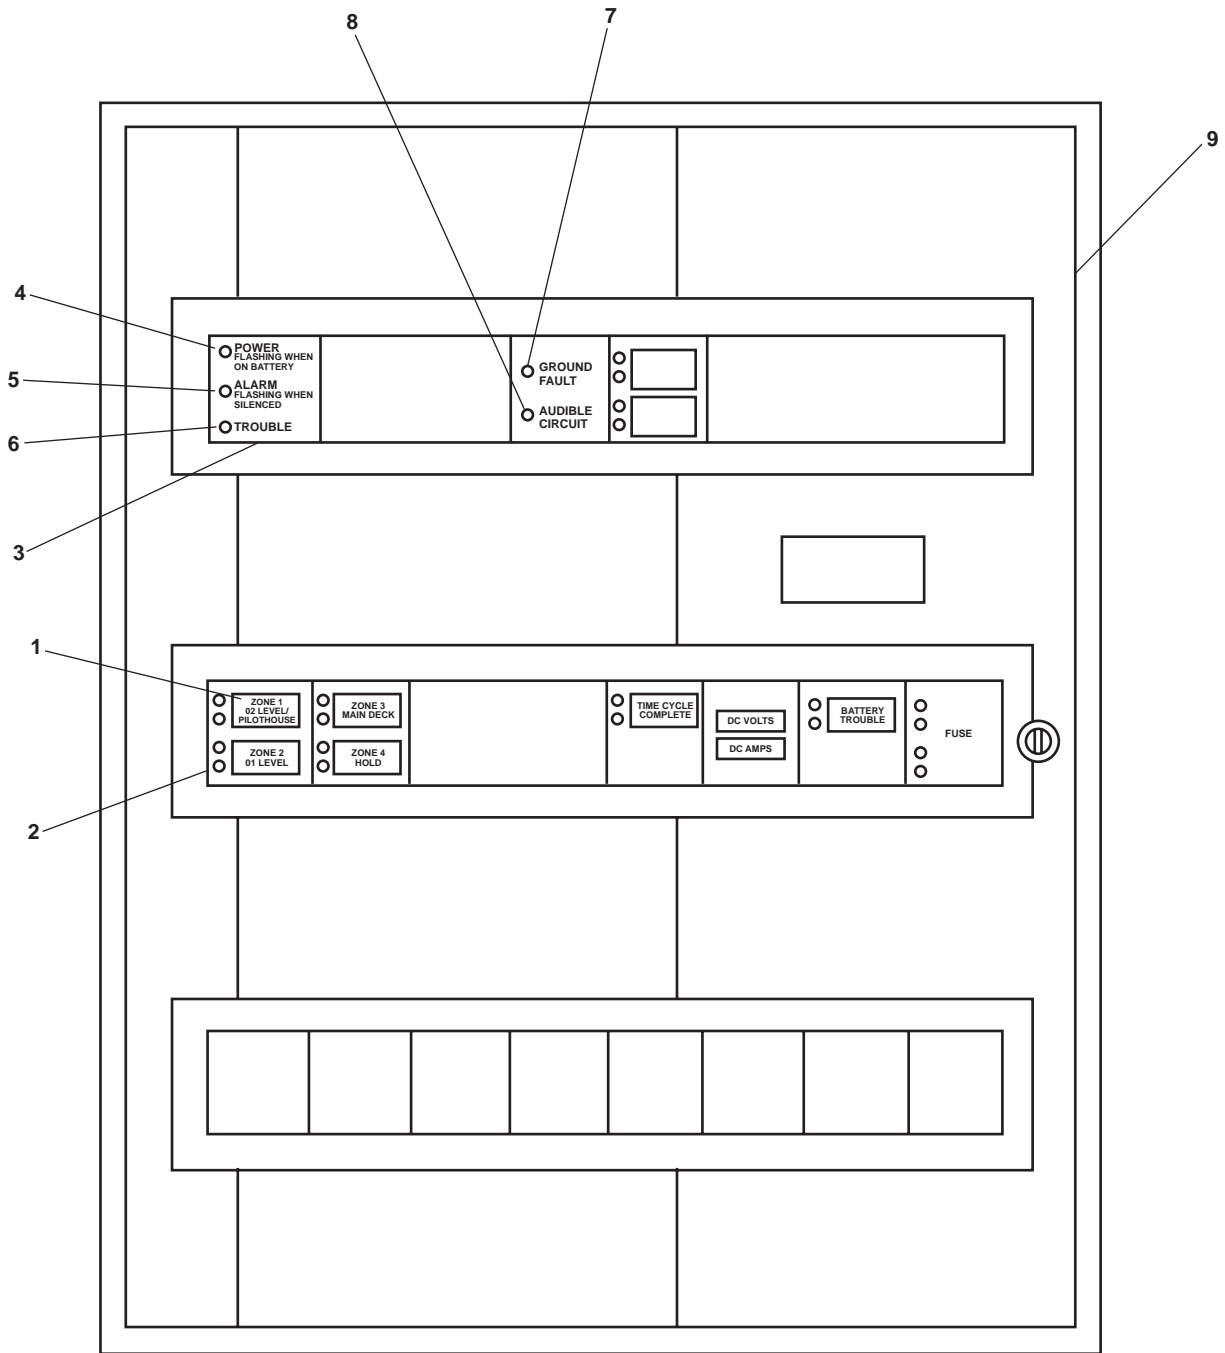
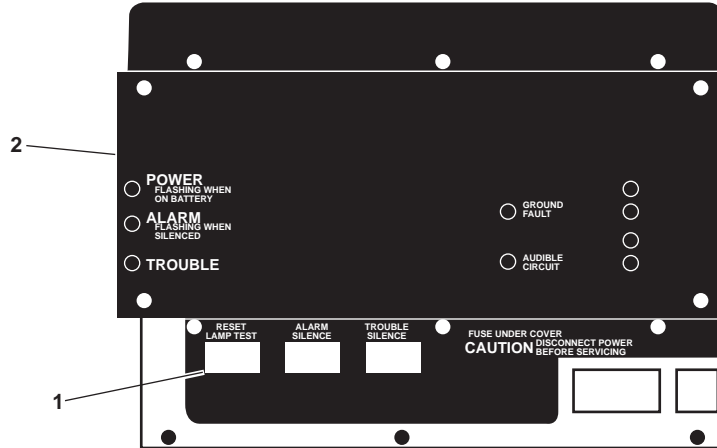

Figure 2. Fire and Smoke Detection Panel – Front View
Figure 3. CP-35 Control Panel
- a. The proper ZONE Light Emitting Diode (LED) indicator (figure 2, item 1) illuminates on the dual zone module (figure 2, item 2).
- b. On the CP-35 control panel (figure 2, item 3), ensure that the system POWER indicator (figure 2, item 4) is illuminated while the system ALARM (figure 2, item 5), system TROUBLE (figure 2, item 6), GROUND FAULT (figure 2, item 7), and AUDIBLE CIRCUIT (figure 2, item 8) trouble LED indicators are off.
4. Open the fire and smoke detection panel door (figure 2, item 9).
5. Set the RESET LAMP TEST switch (figure 3, item 1) on the CP-35 control panel (figure 3, item 2) to the RESET position.
6. Ensure that all the visual indicators (figure 2, items 4, 5, 6, 7, and 8) on the CP-35 control panel (figure 2, item 3) illuminate, and the trouble horn sounds when the RESET LAMP TEST switch (figure 3, item 1) is moved momentarily to the RESET position.